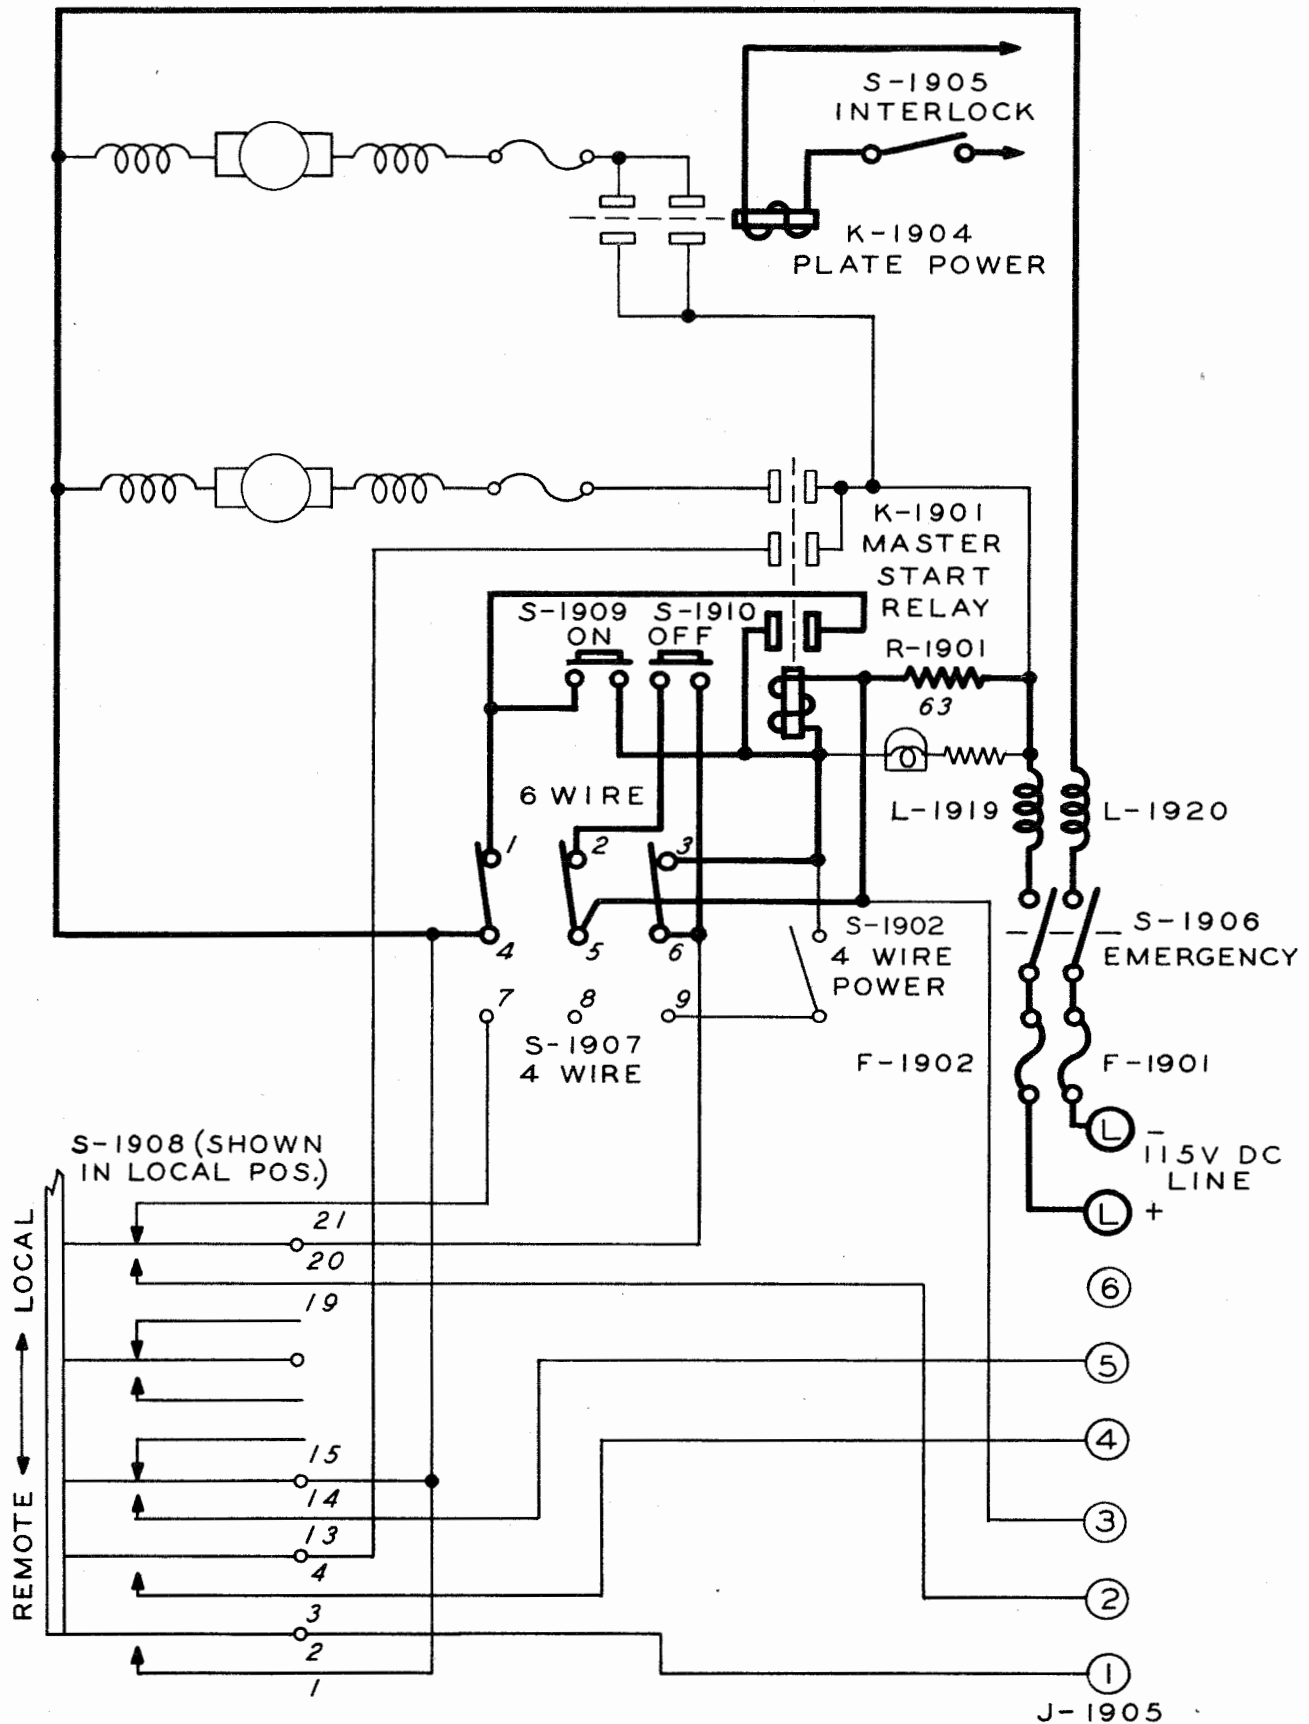

Figure 4-2 Local Power Control - 6 Wire Navy Circuits
b. LOCAL POWER CONTROL - 6 WIRE NAVY CIRCUIT. (See figure 4-2) - For local power control using 6 WIRE Navy Control the 4 WIRE-6 WIRE selector switch S-1907 should be in the 6 WIRE position, the LOCAL-REMOTE switch S-1908 in the LOCAL position and the 4 WIRE POWER switch S-1902 in the OFF position. To operate the master start relay K-1901, the energizing current follows the path from the positive "L" terminal on terminal board J-1905 through LINE fuse F-1902, EMERGENCY switch, S-1906, line filter choke L-1919, limiting resistor R-1901, the coil of master start relay K-1901, the contacts of ON push button S-1909, contacts 1 and 4 of 4 WIRE-6 WIRE switch S-1907, line filter choke L-1920, EMERGENCY switch S-1906, LINE fuse F-1901 to the